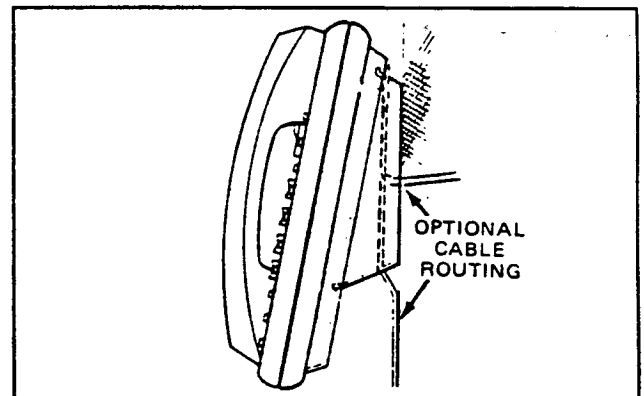

FIGURE 26—EKT WIRE ROUTING
10.27 Route the tail cord through the holes in the base and secure the EKT (Figure 26).